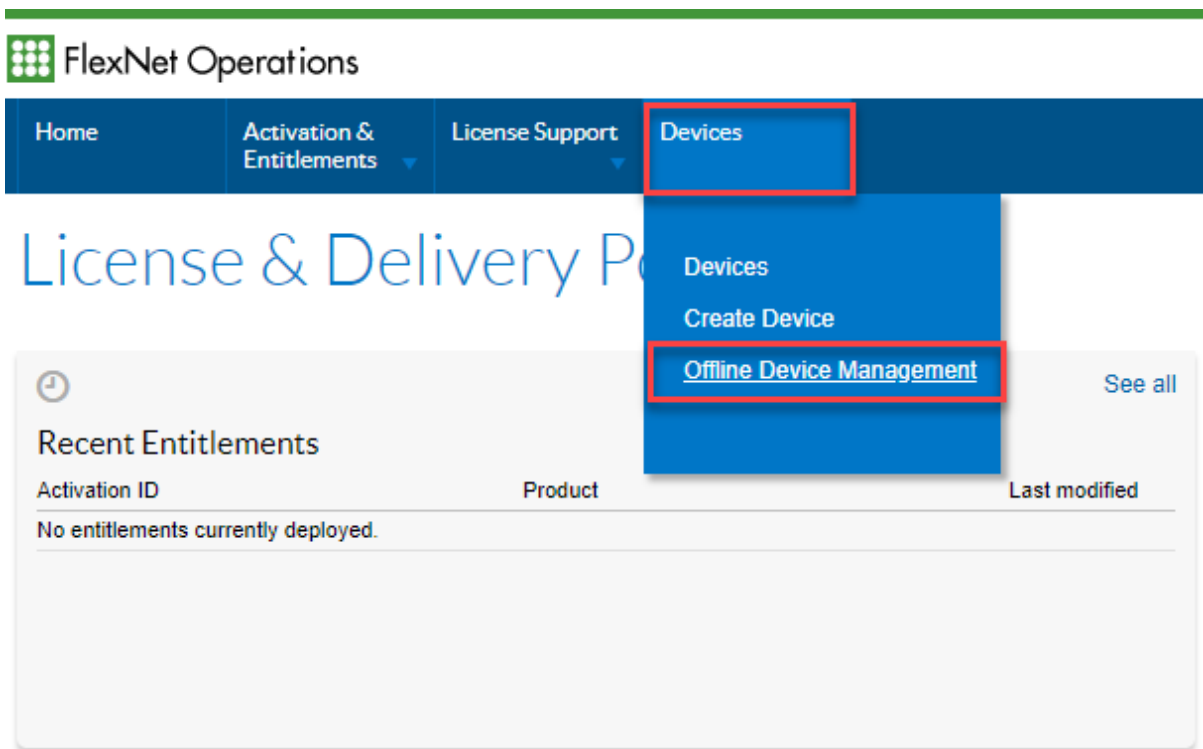

Figure 8 - Select the Offline Device Management Option.
15. *Select* -> **Devices** -> **Offline Device Management** (Figure 8).